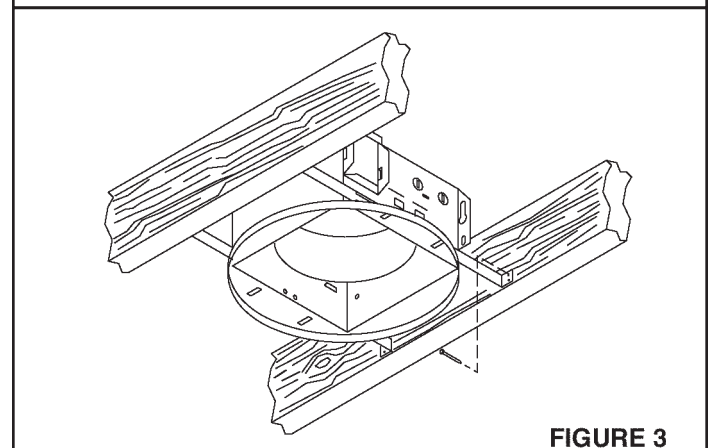
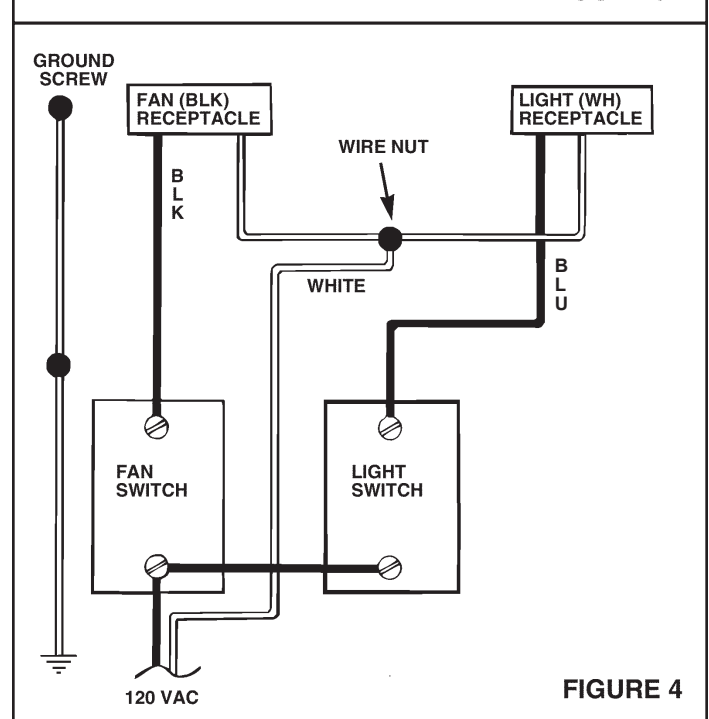

FIGURE 3
FIGURE 4
Refer to Figure 3.
4. **Refer to Figure 4.** Connect white wires from the fan and light receptacles to white (neutral) wire from the supply. Connect black wire from fan receptacle (black) to wire from fan switch. Connect blue wire from light receptacle (white) to wire from light switch.
WIRING AND DUCTING: Plan ducting and wiring BEFORE proceeding with installation. Refer to Figures 4 and 5 for wiring and Figure 3 for ducting.